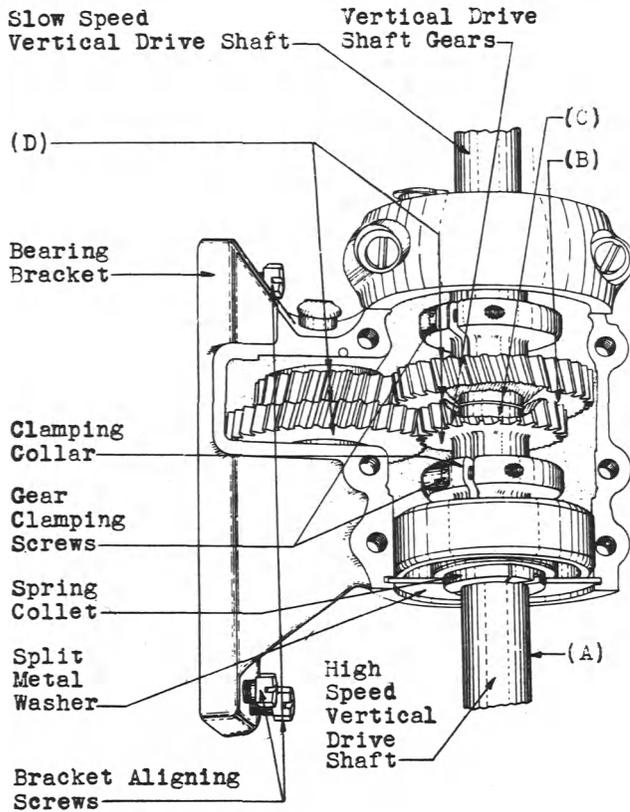

Fig. 2
*2.05 Starting Torque Test - Fig. 2 (A) - The pull required to start the rotation of a shaft, equipped with a No. 16-C or D-78675 type drive, from any position of rest about its axis, at the radius of the lower or high speed vertical drive shaft shall be as follows:
*2.07 Gear Clearance - Fig. 2 (B) - There shall be a clearance of approximately 1/32" (within ± .005") between the adjacent surfaces of the vertical drive shaft gears. Gauge by eye.
*2.08 Location of Gears on Vertical Drive Shafts - Fig. 2 (C) - The end of either vertical drive shaft shall not extend beyond the face of the gear mounted on it. Gauge by eye.
*2.09 Alignment of Gears - Fig. 2 (D) - The top and bottom surfaces of the vertical drive shaft gears shall be approximately in a plane with the corresponding surfaces of the gears in the housing. Gauge by eye.